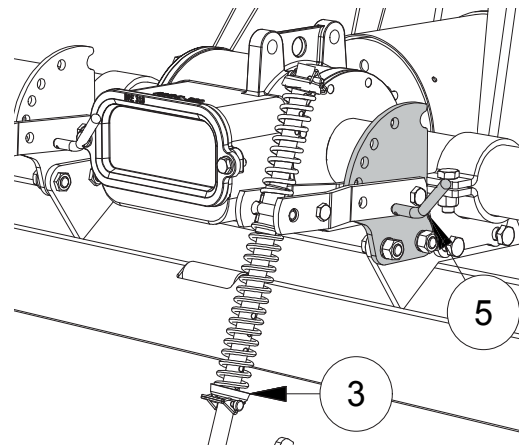

FIG. 31
To level and crumble the soil to a greater degree, the machine has a rear hood (1, "Fig. 31") positioned behind the hoes. It can be adjusted in height by means of a spring (3). It is recommended to start working with the hood in a middle position: after the first working yards, when reaching the chosen depth, secure the position of the hood, insert adjustment pin (5).